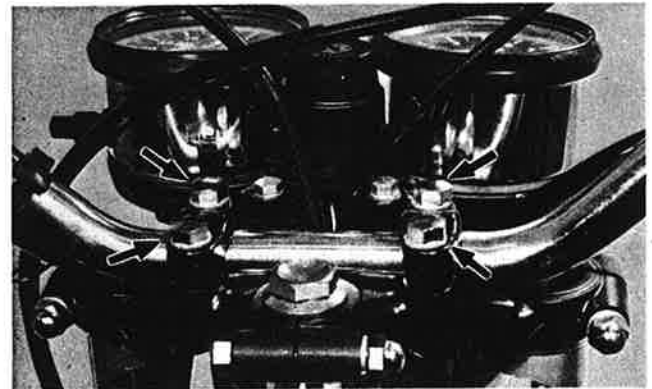

Fig. 5-7-2
6. Remove handlebars and put aside. (Fig. 5-7-2)